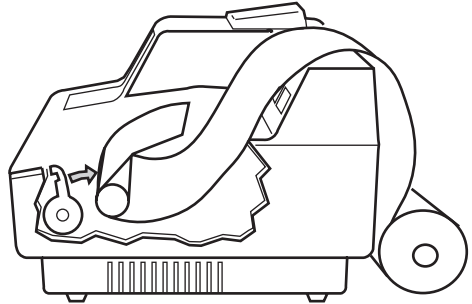

*Figure 40*
1. Remove the paper access cover by pulling up on the front edge. See *Figure 40*.